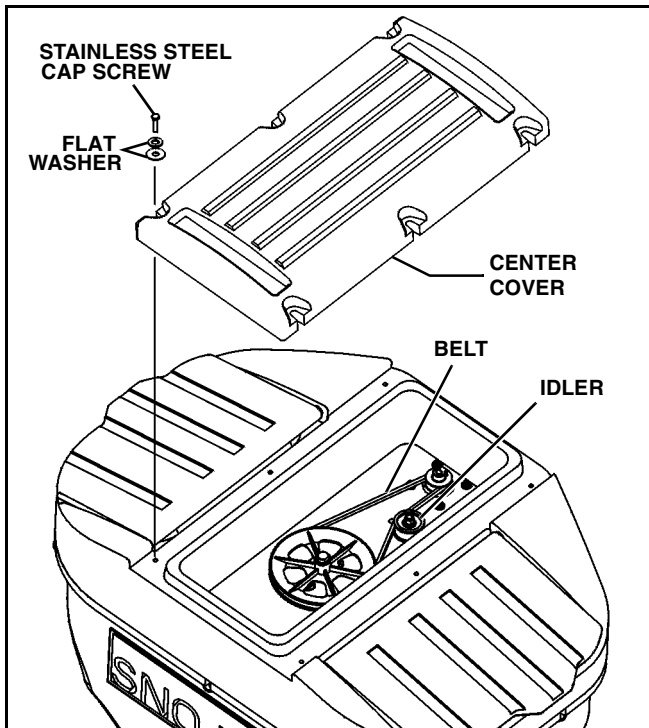

Figure 3-2
3. Remove center cover from hopper by undoing the six stainless steel cap screws that hold down the cover. (See Figure 3-2)